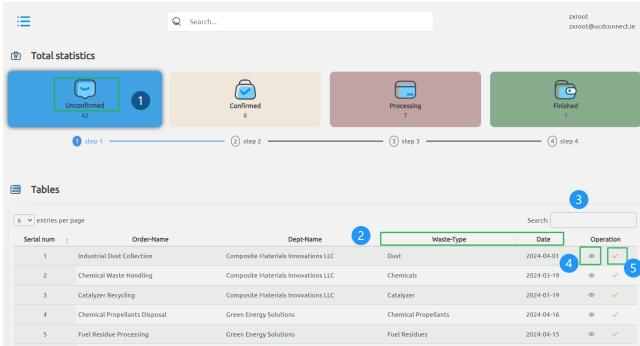

Figure 15: Unconfirmed table
- In **Figure 15**, you can see all “**Unconfirmed Orders**” and manage them. Click box[1] can switch to the unconfirmed table, the order[2] can show different sequence of these orders, the search box[3] can show whatever you want to view, the *eye icon*[4] will show the details of one order, the *tick icon*[5] can confirm one order, the system automatically assesses the waste storage required for the corresponding waste type before confirming the work order. This assessment will ensure that the corresponding storage warehouse can accommodate the current weight, if the weight is too large will alert you, if the weight meets the requirements will change the state.